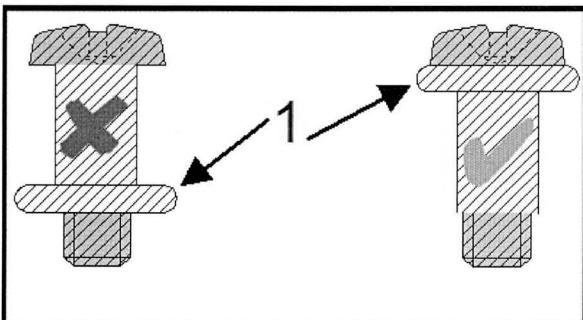
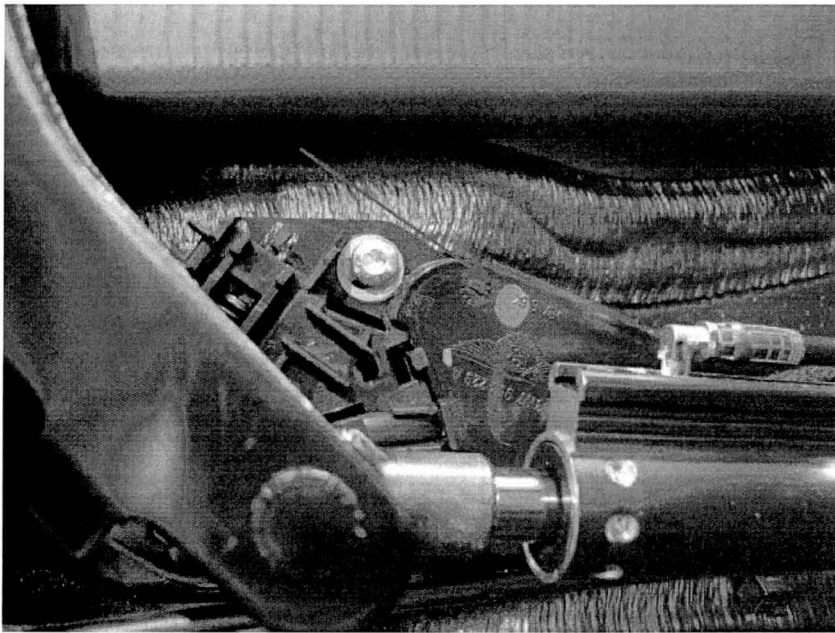

Figure 4
Figure 5
If the vehicle is not already listed as repaired in the "Repair history" (in Elsa pro), check for the presence of a blue campaign completion mark (see Figure 5), should neither be evident carry out the required work in accordance with these instructions
4. If the 'top hat' bush (1) figure 4 is correctly oriented then apply a blue campaign completion mark to the switch housing no further work is required (see Figure 5). If the housing is found to contain and incorrectly orientated bush then replace the switch assembly (part number 3W7953229A) Rep Gr 61 Tonneau cover hinge microswitch – To remove, fit and set
On completion apply a blue campaign completion mark to the switch housing (see Figure 5)